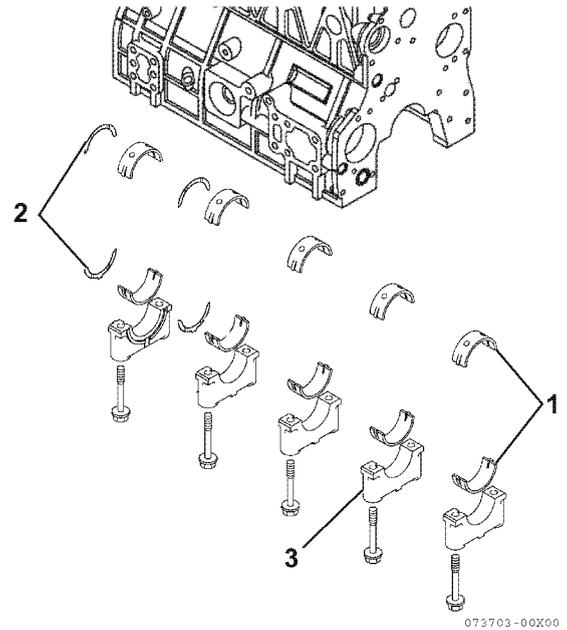

Figure 6-64
- Remove the main bearing caps (3, **Figure 6-64**). Be sure to note the markings on the main bearing caps, or mark them yourself, so they can be reinstalled in the same order as they were removed. Do not remove the bearing inserts at this time.
7. Remove the bearing inserts (1, **Figure 6-64**) and thrust bearings (2, **Figure 6-64**).